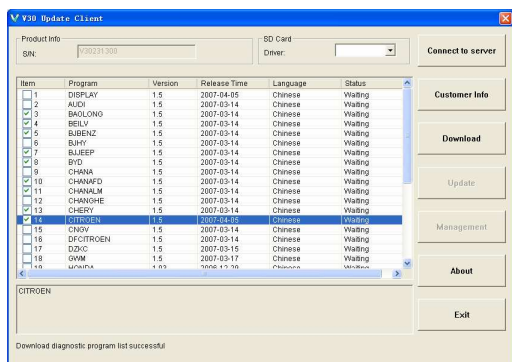

Fig.2-7 Download interface
- (1) Tick the small box before the relevant program as shown in Fig.2-7;
- (2) Click on download button in right column to enter download status.